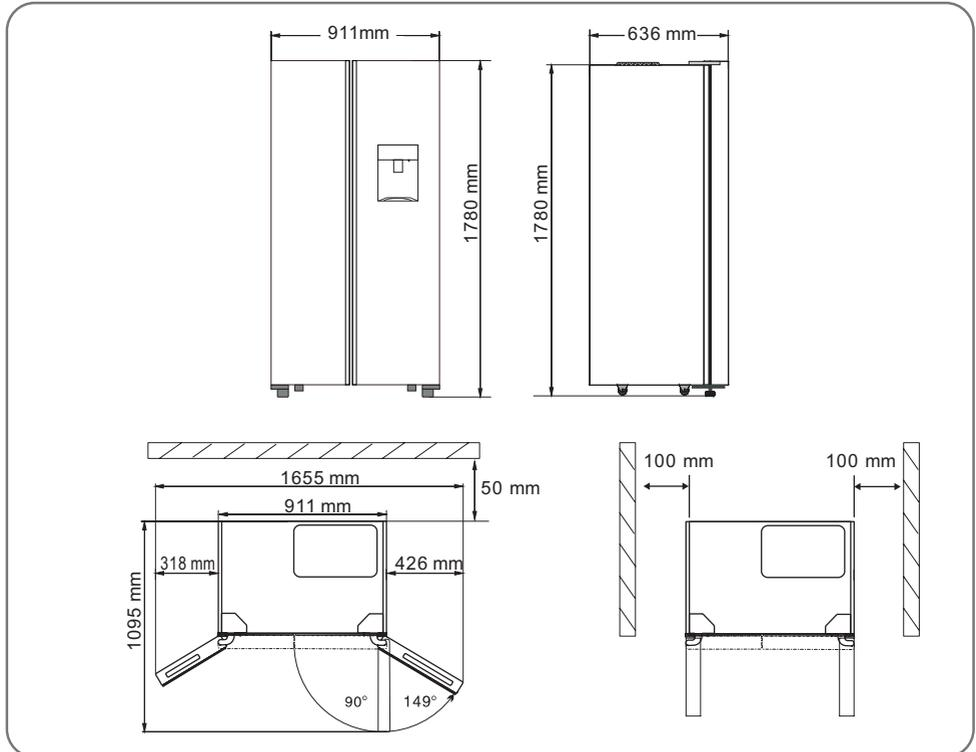

Fig. 5.1
**WARNING:** Do not install the appliance too close to the wall, to avoid noisy operation or blackening of the surfaces; follow the guidelines in (Fig.5.1).
Insufficient ventilation clearance.	Check that there is sufficient ventilation clearance around the appliance. Follow the instructions in (Fig.5.1).
The appliance is touching a wall.	Move the appliance away from the wall and follow the indications given in (Fig.5.1).